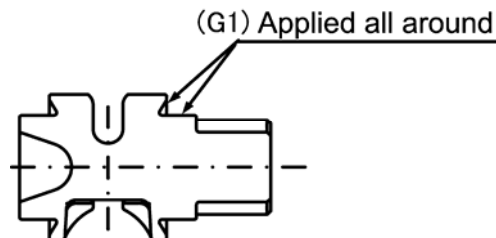

Figure 5-2 Applying Grease to Load Sheave
- 4) Apply (G1) grease to the parts of (18) Load Sheave contacting the holes of (11) Frame B as shown in Figure 5-2